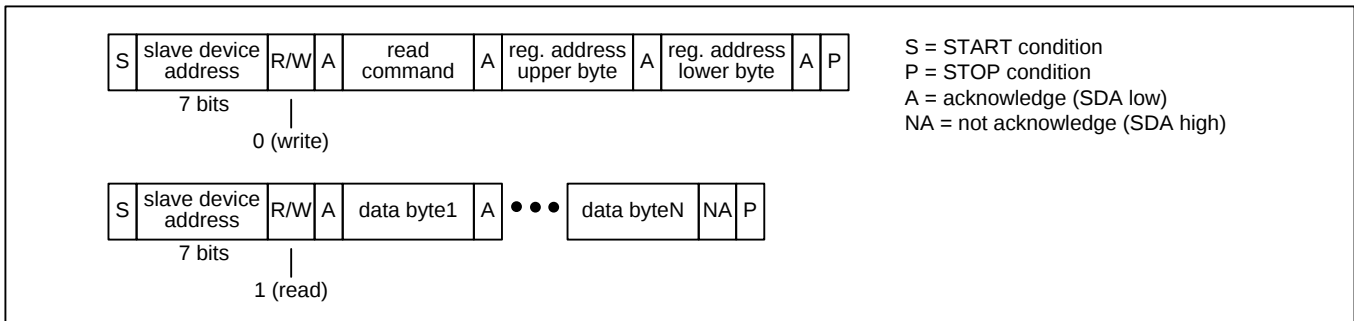
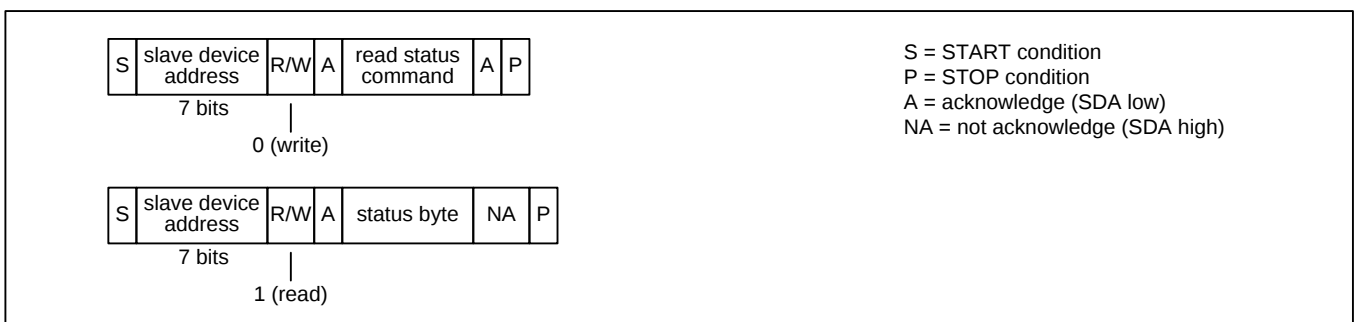

Figure 15 – I²C Read Transaction Functional Timing
Figure 18 – I²C EEPROM Read Status Transaction Functional Timing
Read Transactions. The device registers are accessible when EESSEL=0. The internal EEPROM memory is accessible when EESSEL=1. The bus master first does an I²C write to the device. In this transaction three bytes are written: the SPI Read command (see Table 4), the upper byte of the register address, and the lower byte of the register address. The bus master then does an I²C read. During each acknowledge (A) bit the device fetches data from the read address and then increments the read address. The device then transmits the data to the bus master during the next 8 SCL cycles. The bus master terminates the read with a not-acknowledge (NA) followed by a STOP condition (P). See Figure 15. Note: If the I²C write is separated in time from the I²C read by other I²C transactions then the device only outputs the data value from the first address and repeats that same data value after each acknowledge (A) generated by the bus master.
EEPROM Read Status. The bus master first does an I²C write to transmit the SPI Read Status command (see Table 4) to the device. The bus master then does an I²C read to get the status byte. In this byte, the least significant bit is set to 1 if the transfer is still in progress and 0 if the transfer has completed. See Figure 18.
Note: In Figure 15 through Figure 18, a STOP condition (P) immediately followed by a START condition (S) can be replaced by a repeated START condition (Sr) as described in the I²C specification.